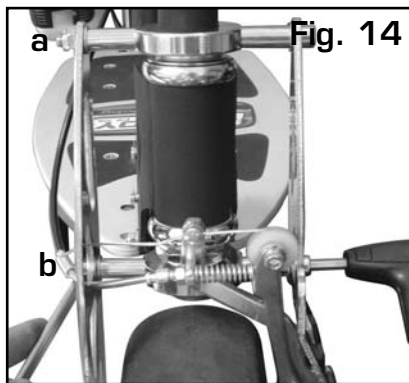

Fig. 14
1. Loosen (a) and Remove the long bolt (b) shown on Fig. 14.